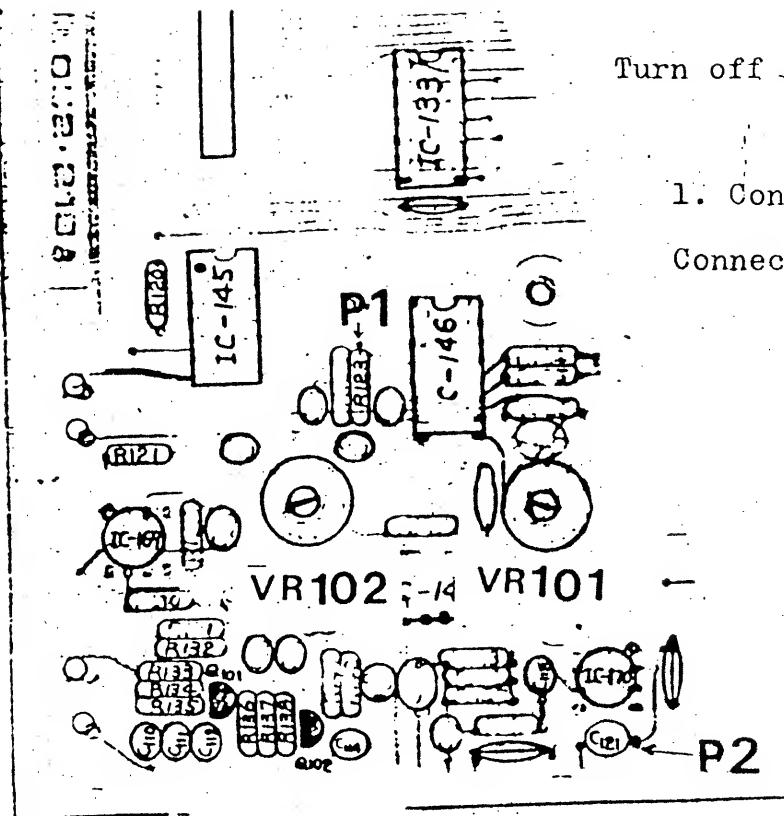

Fig. 2 CPU Board
1. Connect oscilloscope lead to P1 (Fig.2